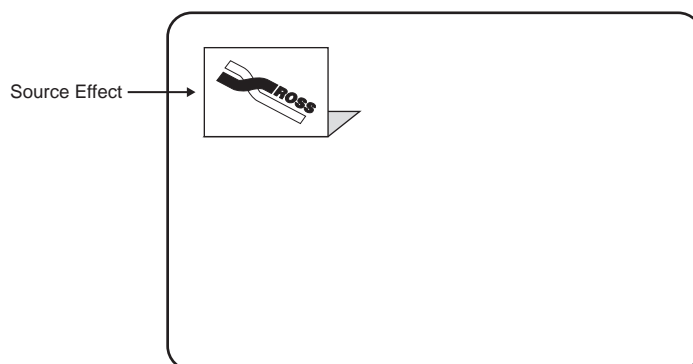

Figure 9.6 Source Memory — First Keyframe
1. Create the first keyframe in your effect. For example, fly a key to create an over the shoulder shot (**Figure 9.6**).